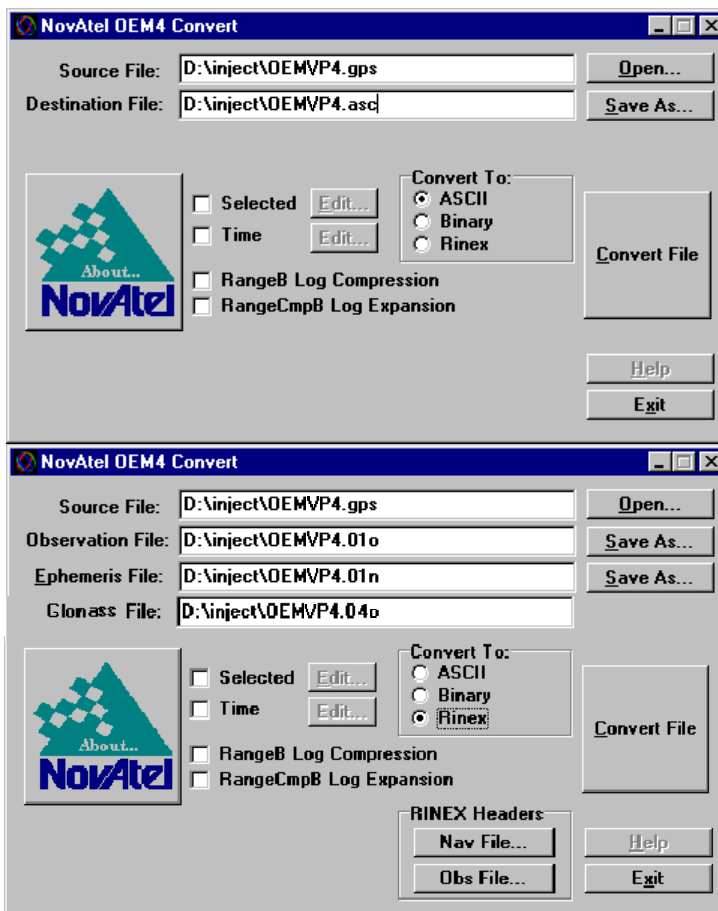

Figure 8: Convert4 Screen Examples
Convert4 is a 32-bit Windows application and is shown in *Figure 8*. Convert4 will accept GPS file formats and convert them to ASCII, Binary or Rinex format. The application also allows the user to screen out particular logs by selecting the desired logs from the list of available logs. This feature is useful for screening particular logs out of large data files in either ASCII or Binary formats.
Selecting the RINEX field, see *Figure 8, Convert4 Screen Examples on Page 42*, in the Convert4 To section causes the:
- a. Information from this log overrides data entered into the Receiver Number, Type and Version fields using the OBS file button of the RINEX Headers section, see *Figure 8* on *Page 42*.